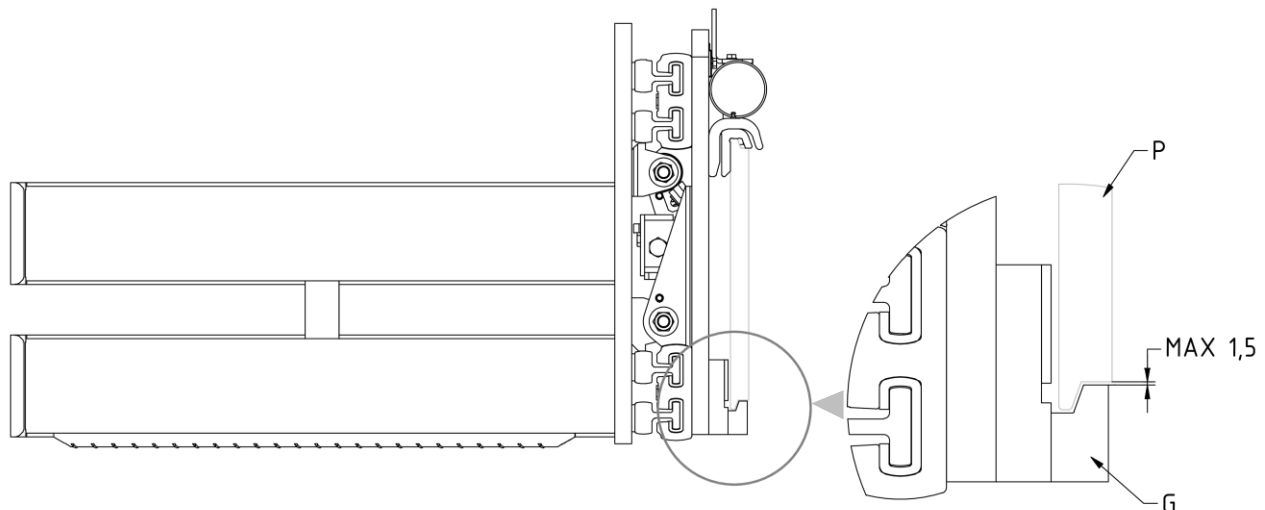

Figure 8
9. Screw on the 2 lower couplings G in such a way that their bodies also remains coupled to the lower part of the fork carriage P (with max. clearance of 1.5 mm, see detail *Figure 8*), tightening with the torque indicated in *Table 4*.